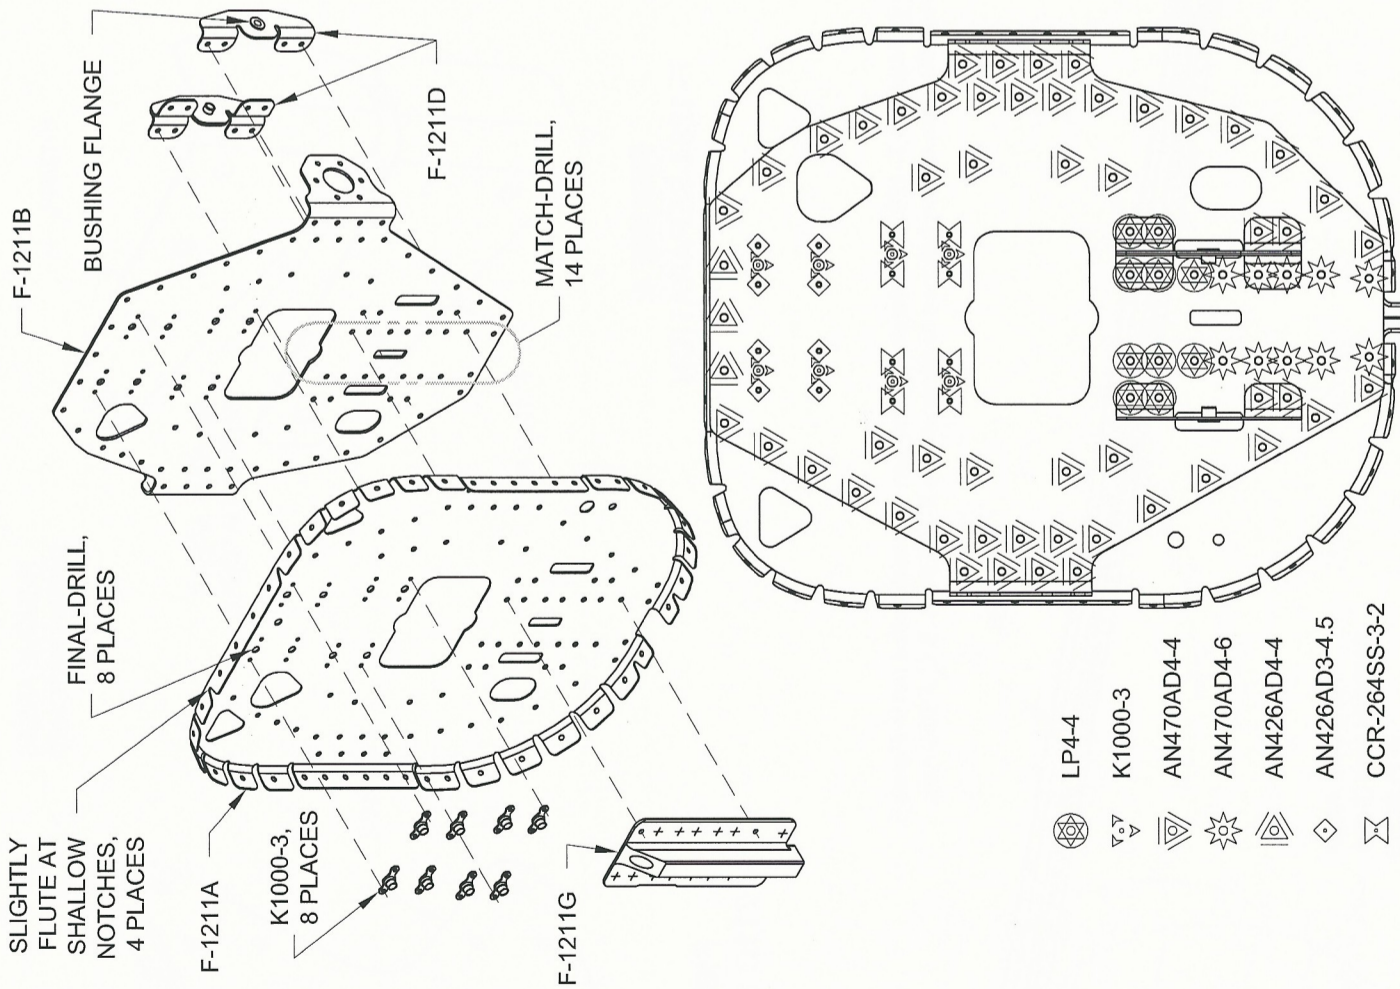

FIGURE 2:
Step 2: Flute the F-1211A Fuselage Bulkhead as called out in Figure 2 only enough to reduce the slight pucker in the flange. Cracking may result from excessive force.
Step 3: Cleco the F-1211B Bulkhead Doubler to the F-1211A Fuselage Bulkhead as shown in Figure 2.
Step 4: Cleco the F-1211G Tail Skid Bracket to the F-1211A Fuselage Bulkhead as shown in Figure 2. Clamp the tail skid bracket in place.
Step 6: Final-Drill #12 the 3/16 holes called out in Figure 2. Disassemble, deburr, clear away chips, and re-cleco in place.
Step 8: Rivet the F-1211A Fuselage Bulkhead to the F-1211B Bulkhead Doubler, using the rivets indicated in Figure 2.
Step 9: Rivet the F-1211D Attach Brackets and F-1211G Tail Skid Bracket to the F-1211 Assembly using the rivets indicated in Figure 2.
Step 10: Rivet the nutplates to the F-1211 Assembly as shown using hardware indicated in Figure 2.